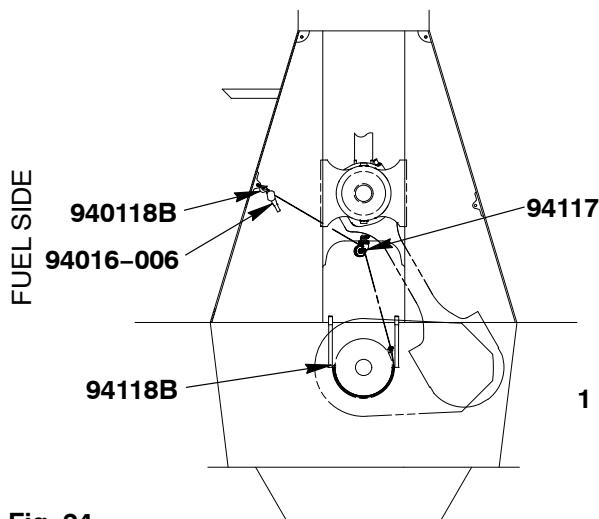

Fig. 24
- Attach the manual ratchet (94016-006, Fig.24) to the shackle (940118B) as shown in Fig.24.
- Attach the roller support (94117, Fig.24) to the column and secure it with its dowel pin.